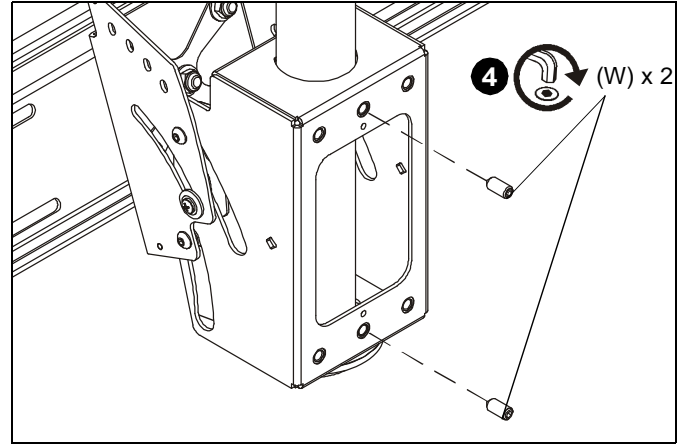

Figure 2
4. Install and tighten two 5/16" set screws (W) through back of mount (Z) and against column. (See Figure 2)